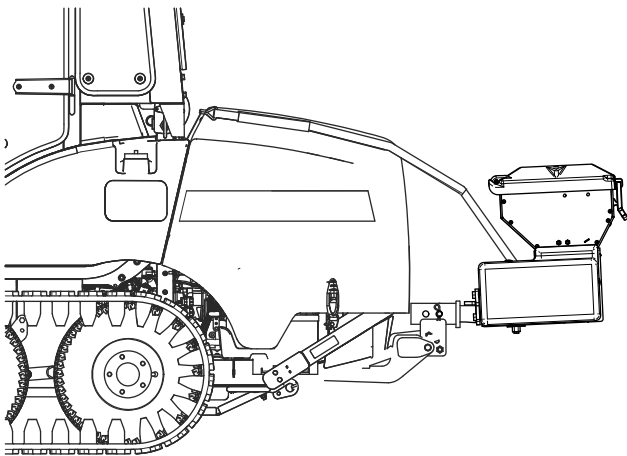

Figure 25
1. Slide the spreader hitch into the receiver hitch on the vehicle and line up the second hole on the spreader hitch with the hole in the hitch of your vehicle (Figure 25).